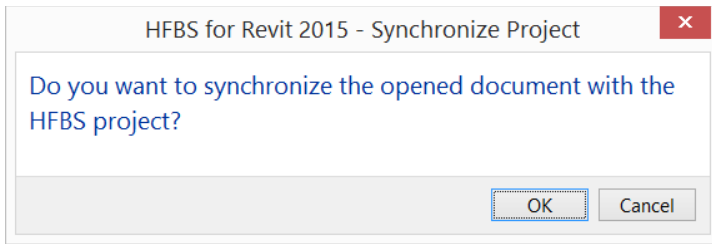

Figure 10 HFBS for Revit - Synchronizing the HFBS project with the Revit project.
1. Once you have opened a project in HFBS for Revit, you will be prompted to synchronize your Revit project with the HFBS project you have opened (see Figure 10).